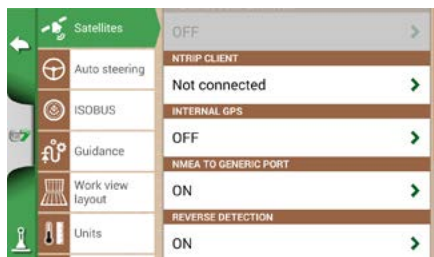

Figure 6.2.2.a - Satellites settings page
3. Fill the text fields shown in Figure 6.2.2.b (data provided by your dealer or by your NTRIP provider)